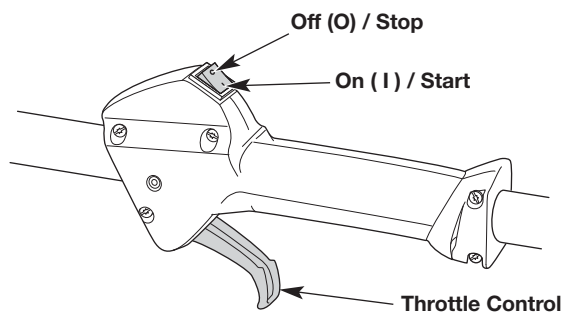
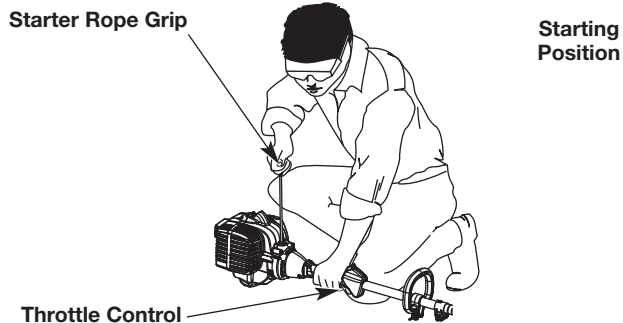

Fig. 7
Fig. 9
WARNING: Avoid accidentally starting the unit. To avoid serious injury, the operator and the unit must be in a stable position when pulling the starter rope (Fig. 9).
NOTE: There is no need to turn the unit on. The On/Off switch is in the ON (I) position at all times (Fig. 7).
5. Crouch in the starting position (Fig. 9).
6. Squeeze the throttle control (Fig. 7) and pull the starter rope with a controlled and steady motion **5 times** (Fig. 9).
2. Press and hold the On/Off switch in the OFF (O) position until the engine comes to a complete stop (Fig. 7).